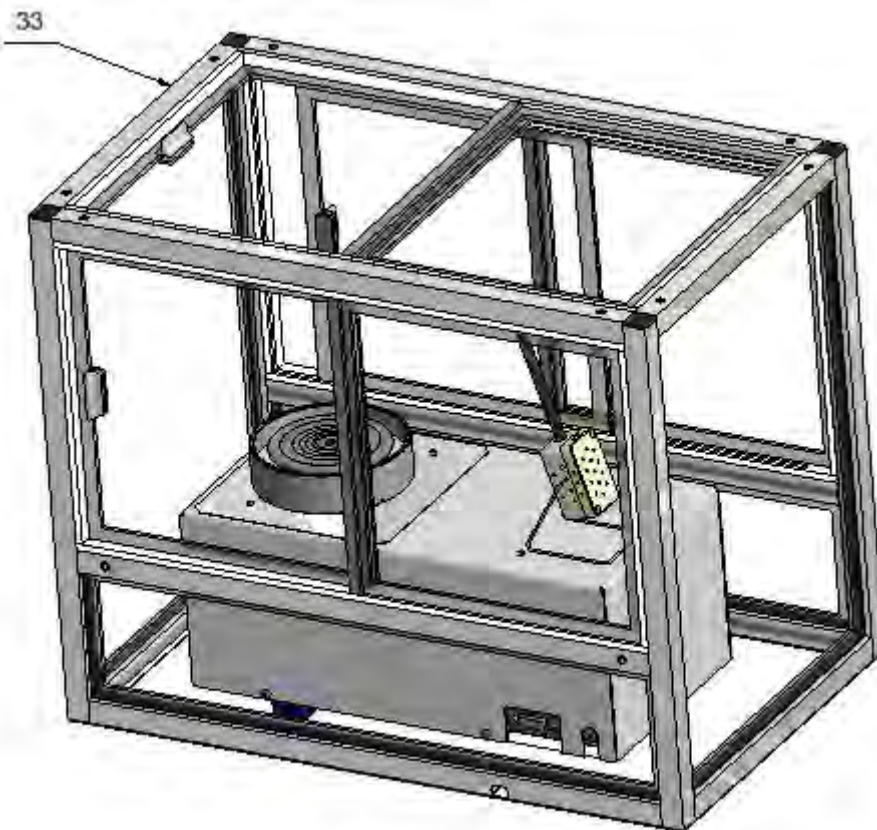

Fig.7
12.2. Using four M3 screws (26) apply metal insert for masking (25), , apply anti-draft shield of the weighing pan (27), pan shield (28), weighing pan with a mandrel (29). In order to assure sealing, screw 2 remaining screws M3 (26). Install anti-draft chamber (33). (Fig.7)